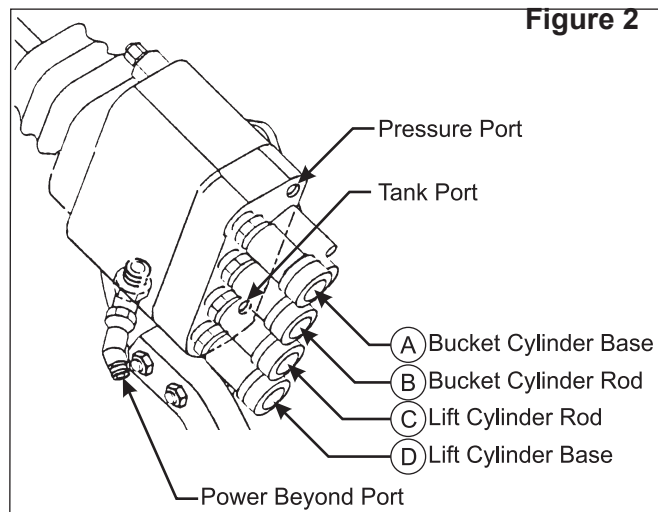

Figure 2
PLUMBING CONTROL VALVE TO TRACTOR HYDRAULICS (Figures 2 & 3)
1. Install 3/8 x 44 hoses (27) onto boom oil line tubes. Install and tighten hose fittings one at a time from bottom up. Loosening closest oil line clamp will ease installation.
2. Install male quick couplers (25) onto free ends of hoses (27). Install 5/8 spiral bands (26) onto free ends of hoses (27) to match bands (16) on female quick couplers.
3. Connect hoses from upper two boom oil lines to upper female quick couplers and connect hoses from lower boom oil lines to lower two female quick couplers (Figures 2 & 3). Bundle hoses together using adjustable strap (22).